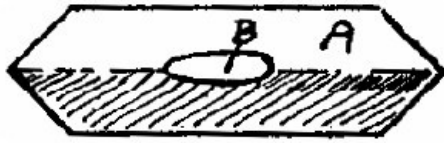

Fig. 109.
**242. Pivoted Electroscope.** Fig. 109 and 110. Fold a piece of stiff paper double, then cut it into the shape shown. It should be about 3 in. long and 1 in. wide when opened out. A hole, *B*, about  $\frac{1}{2}$  in. in diameter should be cut in it while folded. A piece of paper, *C*, should be pasted to *A*, so that its top, where it is creased, will be about  $\frac{1}{8}$  in. above the top of *A*. The support consists of a pin, *E*, stuck through a cork, *D*. Balance the paper on the pin, which passes up through the hole, *B*. An electrified body brought near this apparatus will make it whirl around very decidedly.